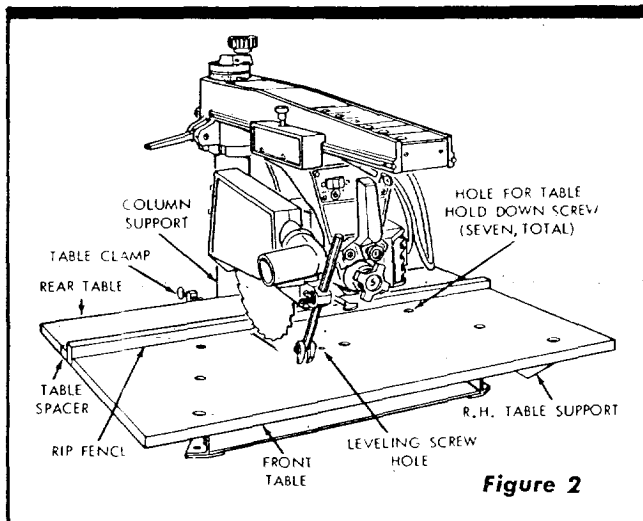
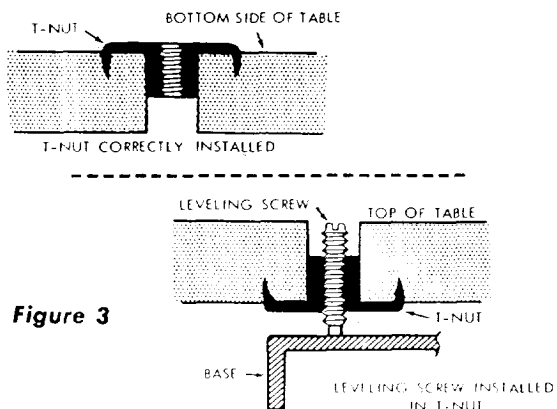

Figure 2
Figure 3
1. Place the large table board upside-down on floor. Distinguish between the one through-bored (leveling screw) hole near the center of the board, and the seven counterbore holes. (See figure 2.) The counterbores are in the top surface of the board. Drive the T-nut into the through-hole. (See figure 3.)